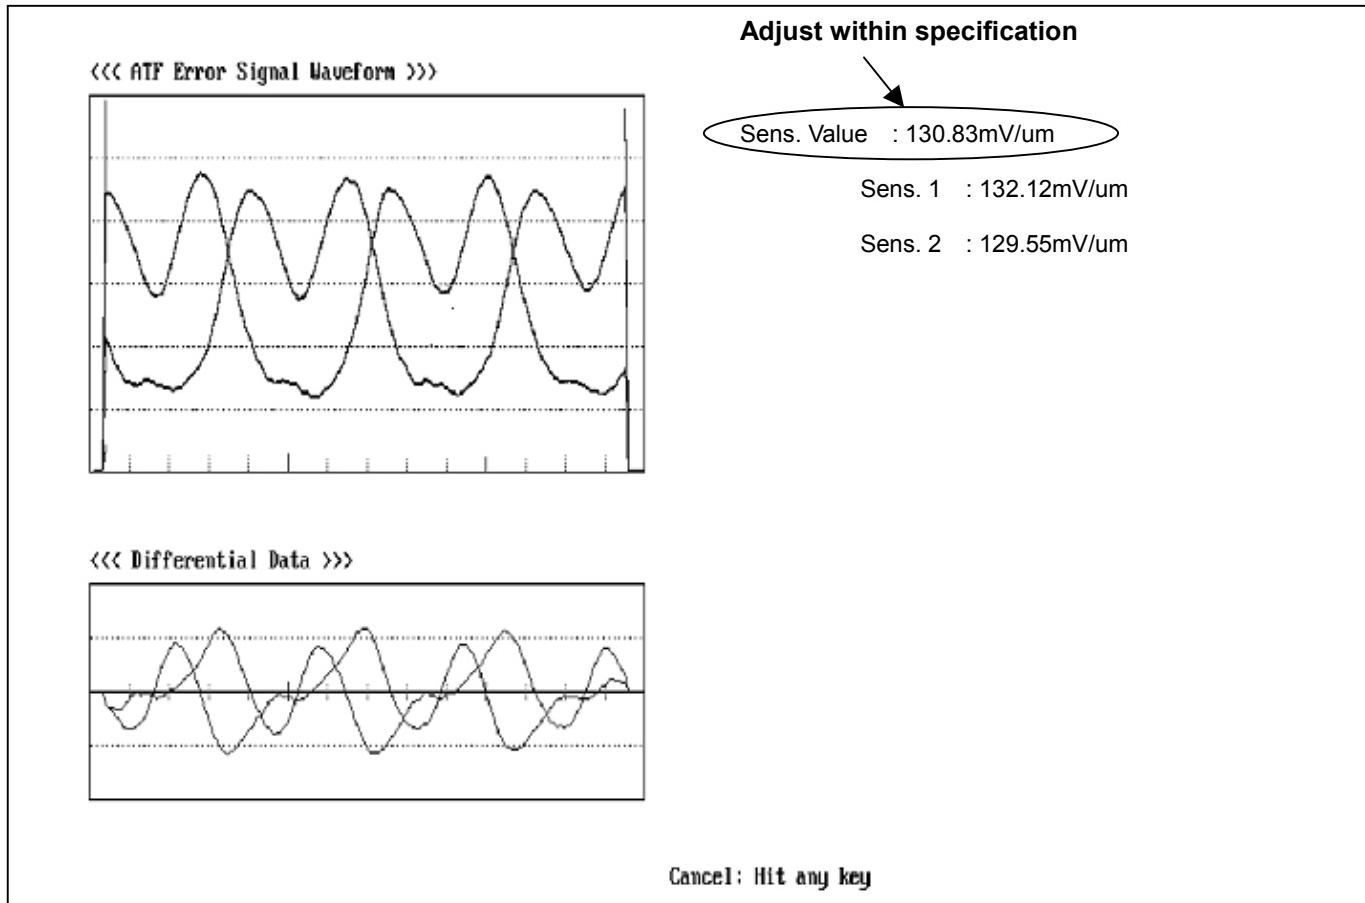
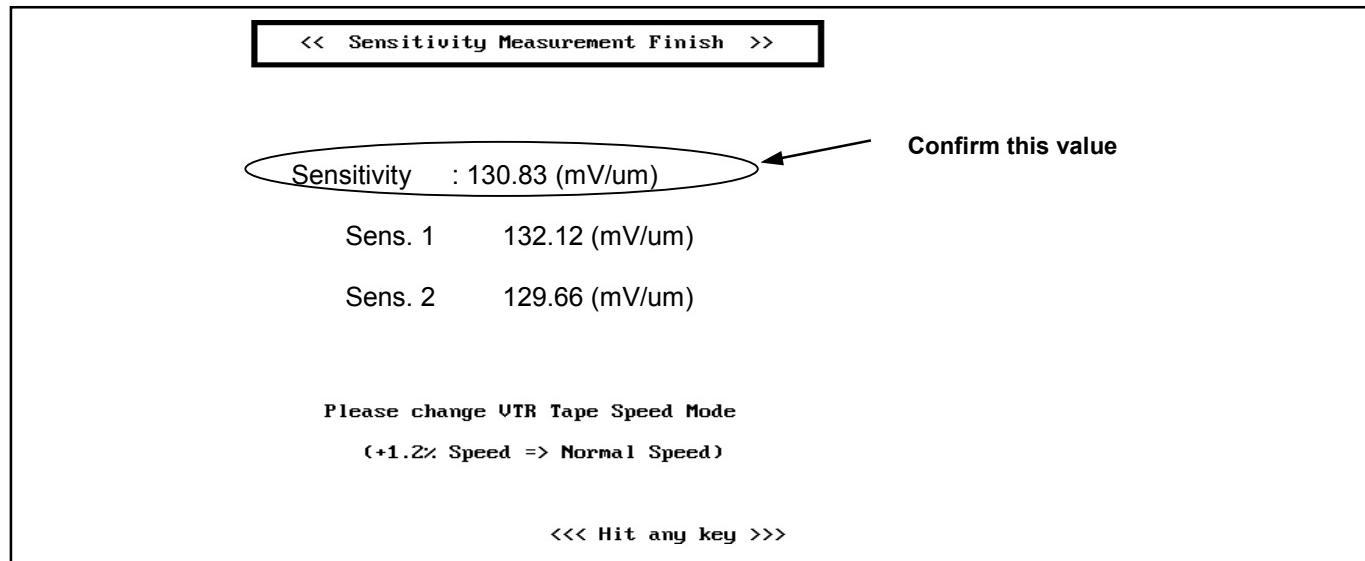

Figure 3-38-3
Figure 3-38-4
5. When the picture is appeared as shown in figure 3-38-3, adjust ATF Gain (A18: RPR GAIN DV) so that the "Sens. Value:" meets the specification.
7. Select the Lista Main Menu "(1) Sensitivity Measurement" so that the screen of <ATF Error Signal monitor> appears (refer to 3-38-2).
9. Confirm that the sensitivity value is within the specification (refer to figure 3-38-4).
10. If it is out of specification, return to item 3.